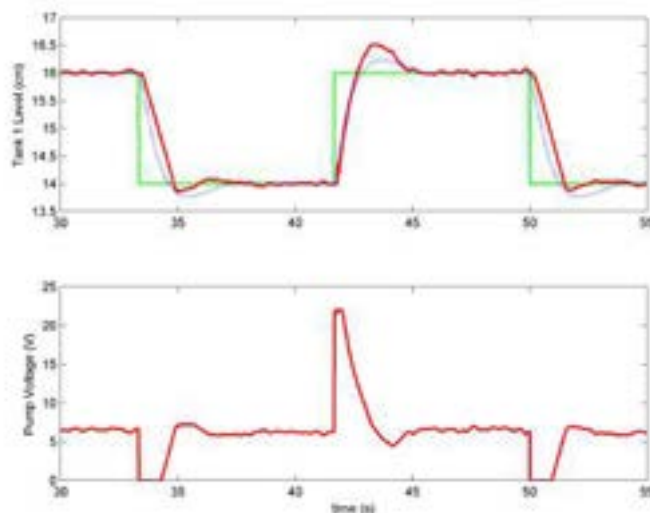

Figure Ans.3.2: Closed-loop tank 1 level control response.
- B-5 If the procedure was followed properly, the control should have been ran on the Coupled Tanks system and the response similar to Figure Ans.3.2 should have been obtained.
- K-2 The closed-loop response is shown in Figure Ans.3.2. You can generate this using the `plot_tanks_1_rsp.m` script.
K-1 The settling time, percent overshoot, and steady-state error measured in the response shown in Figure Ans.3.2 are: